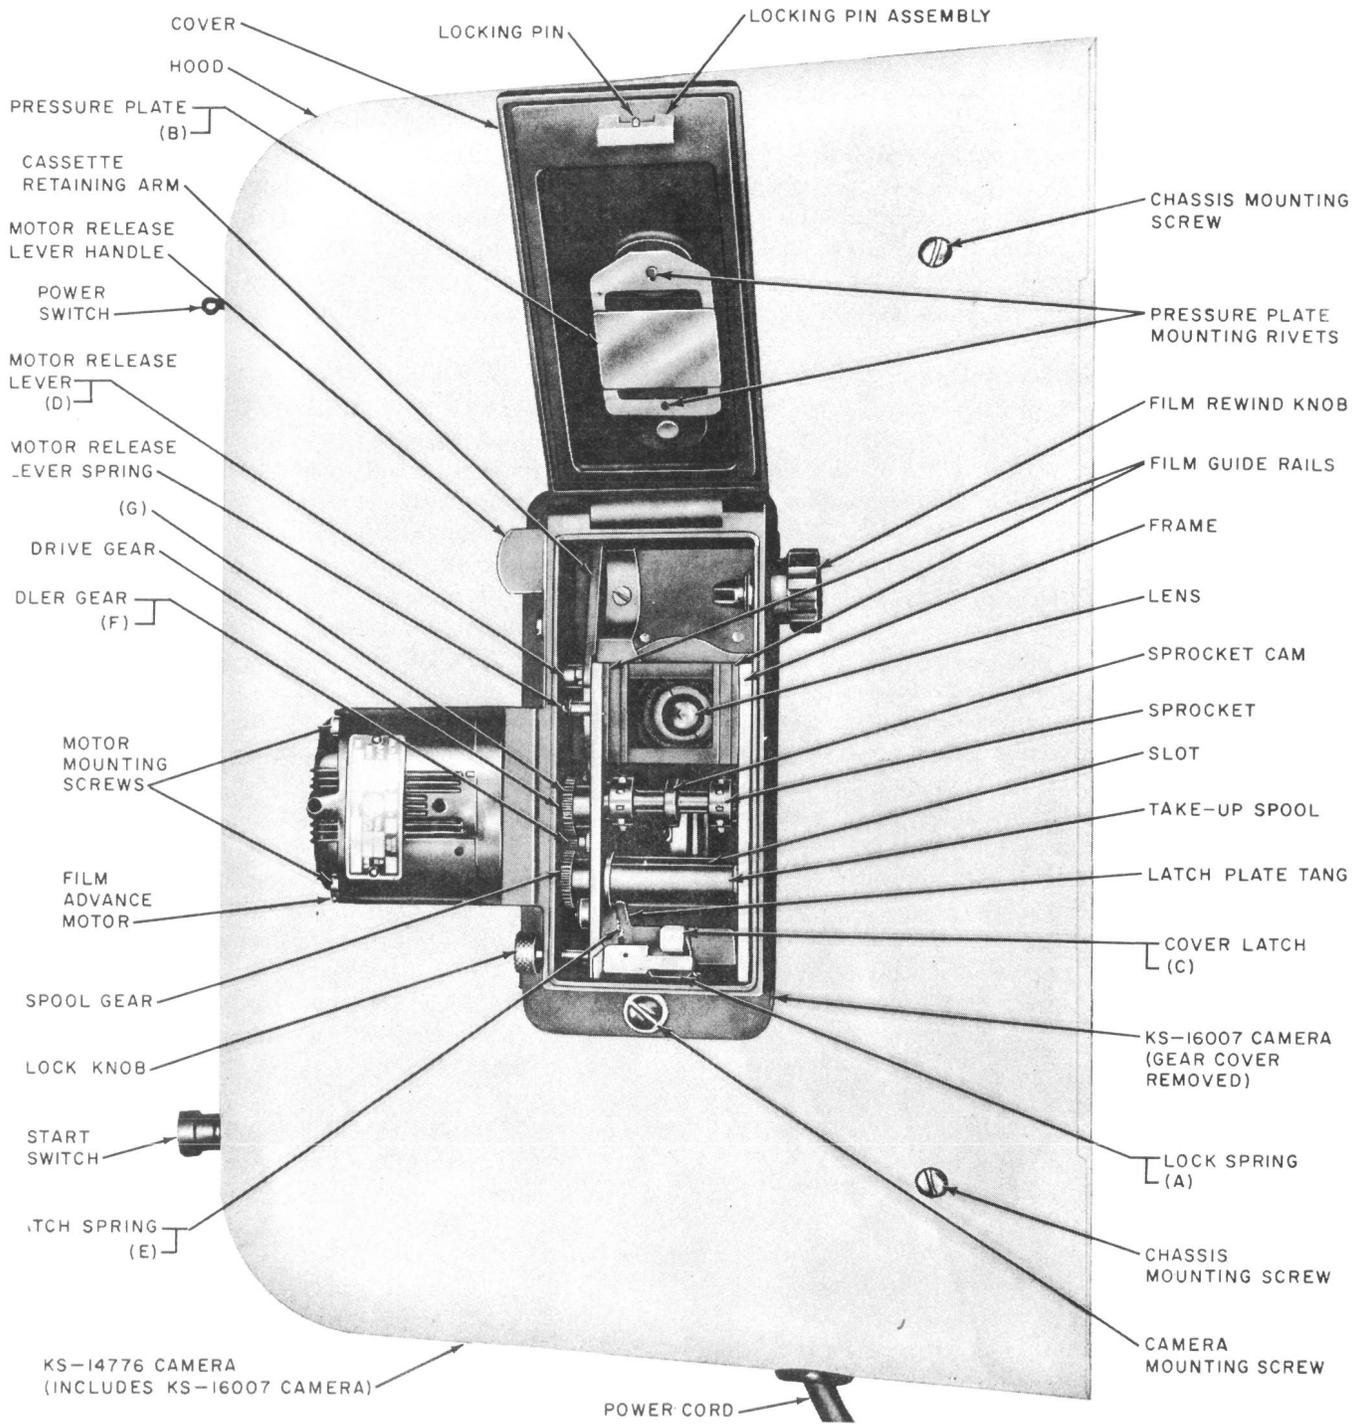

Fig. 6—KS-14776 Camera—View With KS-16007 Camera Open
**2.04 Position of Pressure Plate:** Fig. 6, (B)—When released by a clockwise rotation of the lock knob, the cover shall be held partially open by the pressure plate.
**2.05 Cover Latch Clearance:** Fig. 6, (C)